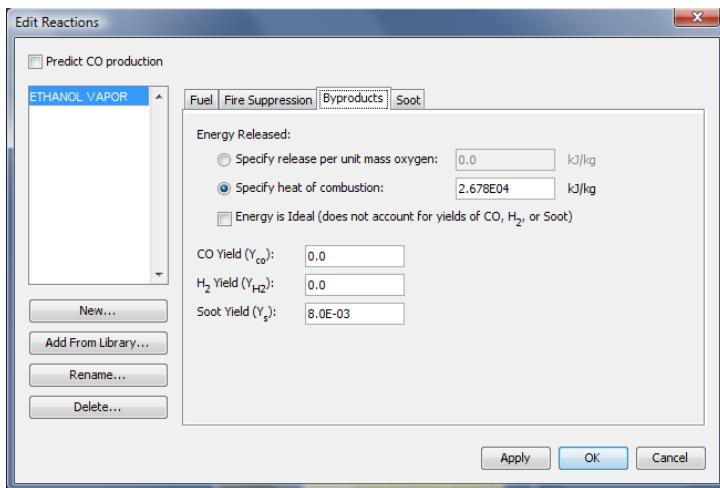

Figure 11.4. Byproducts panel of the Edit Reactions dialog
5. On the **Byproducts** tab, you can select either **Specify release per unit mass oxygen** ($EPUMO2$) or **specify heat of combustion** ($HEAT_OF_COMBUSTION$). You can also specify the CO yield, H₂ yield, and Soot yield. The values used for the ethanol pan fire are shown in Figure 11.4.